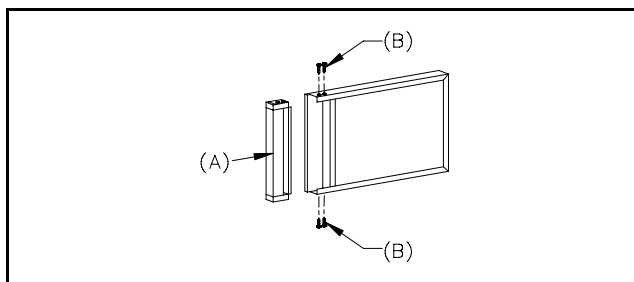

Figure 6
2. Remove handle assembly (A) by removing four screws (B). (See Figure 6)